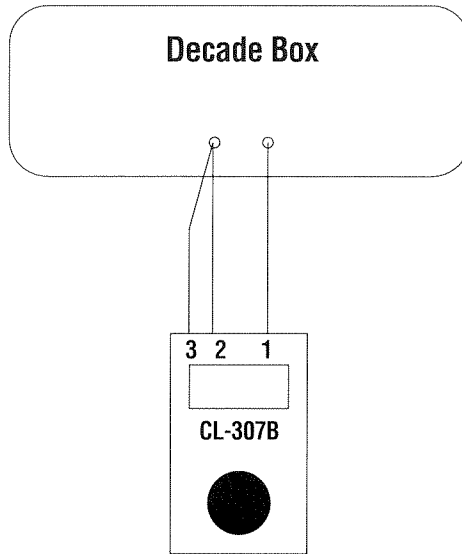

Figure 3
- a) Connect the decade box to the CL-307B. (see Figure 3).